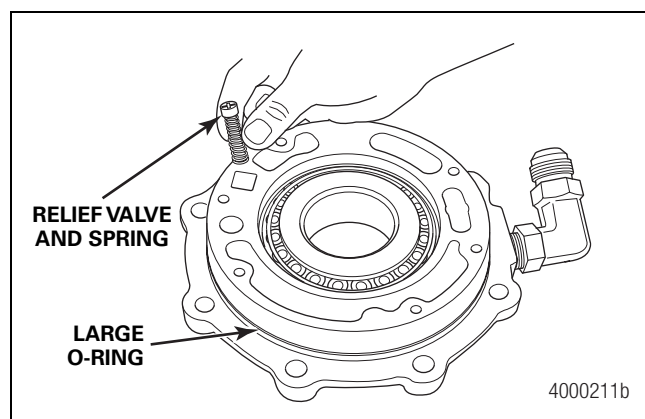
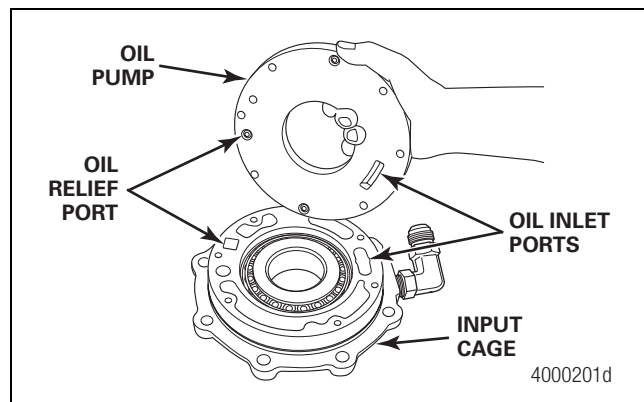

Figure 11
Figure 12
2. Place the large O-ring around the groove on the bearing cage and lubricate with grease. Figure 11.
3. Pack grease into the pump oil inlet port before assembling the oil pump to the input bearing cage. Figure 12.
5. Insert the relief valve and spring into the relief port of the input bearing cage. Install the large diameter end of the spring down. Figure 11. Align the oil pump inlet with the oil inlet port of the input bearing cage. Figure 12.